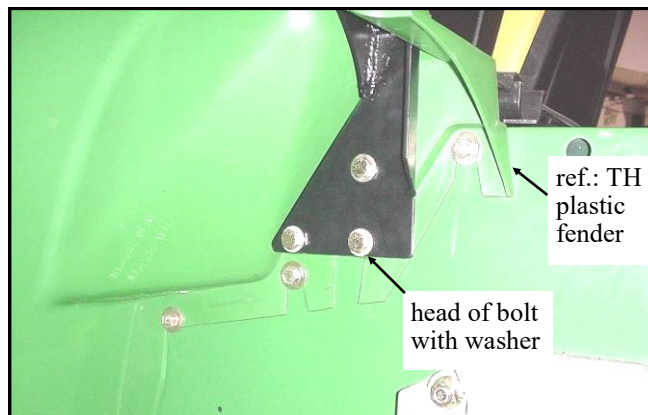

Fig. 5.1
5.1 Orient the left and right rear mount tabs so that it lines up with the three hole pattern shown in figure 5.1. Ref.: **ON MODEL TH ONLY:** the angles on the rear mount tab match the underside angles of the plastic fender.
5.2 The rear mount tab should be oriented so that the top mounting surface and top bolt hole is pointing out away from the center of the vehicle. NOTE: the plastic fender shown in fig. 5.1 is only on the TH model. Install rear mount tabs using three (3) 3/8 x 7/8" long hex head bolts, three steel washers, and three locknuts per side. The locknuts go behind the plates without washers. The head of the bolt is outboard as shown with washers under the bolt heads.